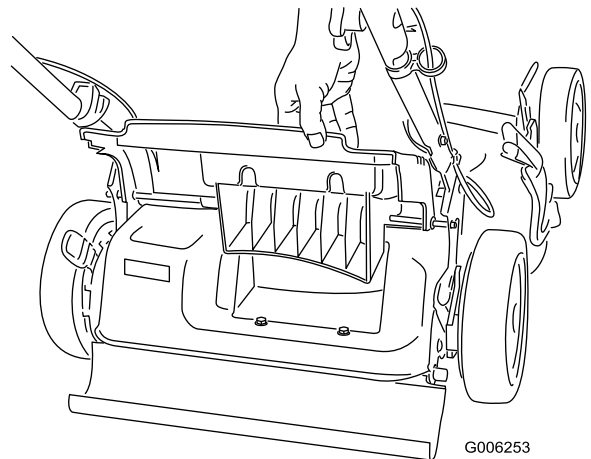

Figure 15
1. Raise and hold up the rear door (Figure 15).